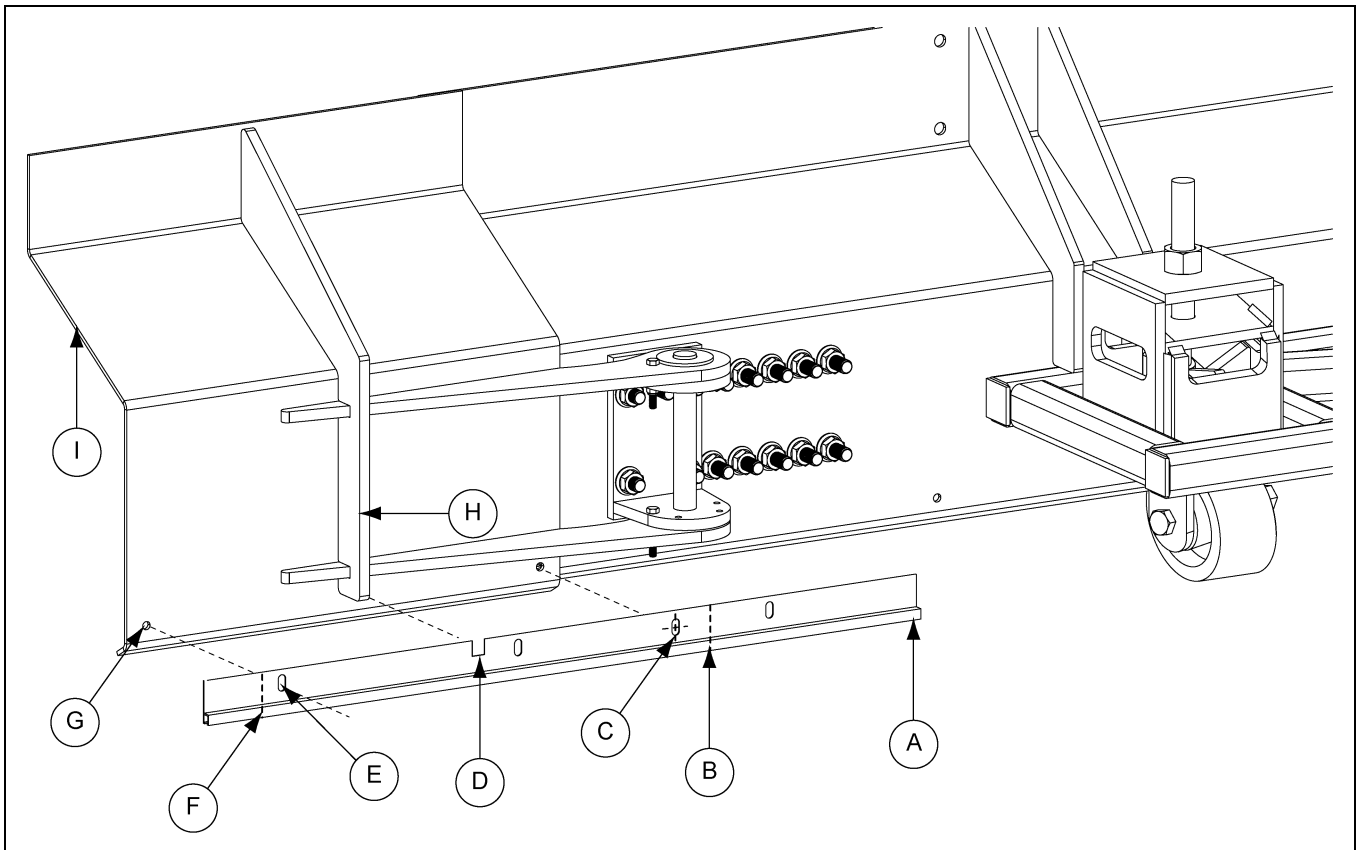

Figure 7L
1. Place a brush holder (A) to the frame of the plow (I). *(See Figure 7L.)*
2. Align brush holder hole (E) with plow frame hole (G) and scribe or mark each outer edge (B and F) of the plow frame. Transfer these marks to the brush holder (A).
4. Cut a notch (D) in brush holder to fit around plow brace (H) on the plow.
6. Using a scribe or marker, place a reference mark (C) from the front side of plow through hole onto brush holder. Drill out this reference mark (C) on brush holder (A).